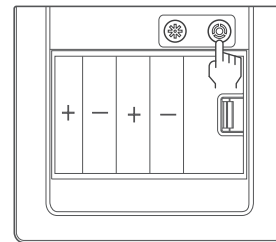

Figure 6
1. As shown in Figure 6, long press the black safe mode button 'ⓘ' for 3 seconds. There will be a voice prompt 'Vibration alert is on', indicating successful operation. Long press it for another 3 seconds can turn the 'Vibration alert' off.